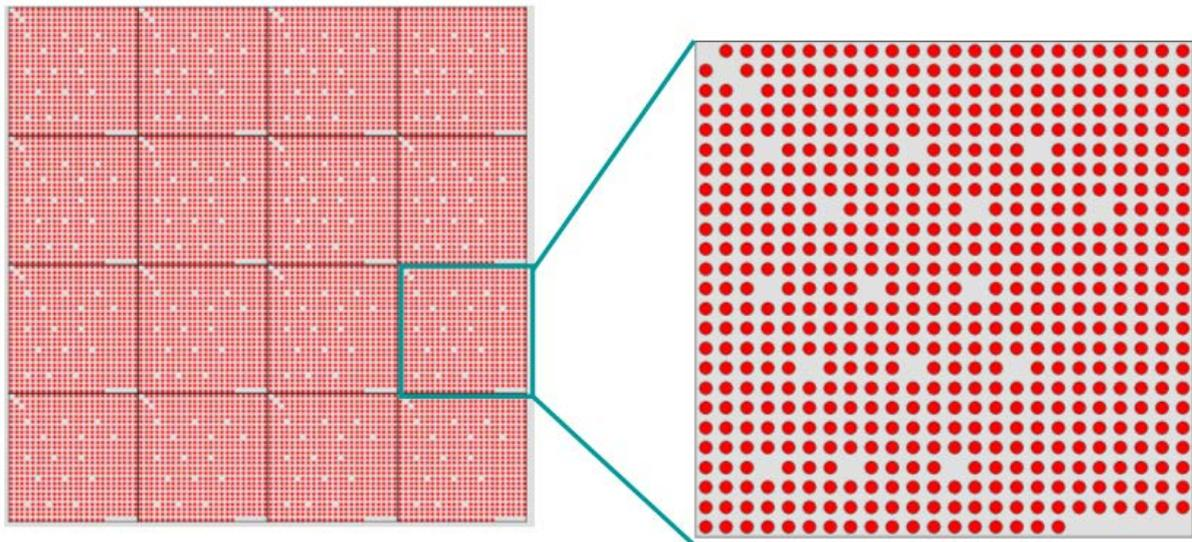

Figure 3: Exemplaric view for a subarray (left) consisting of 16 individual blocks. Each block (right) is calculated by number of rows vs. number of columns
For high-density peptide microarrays, each peptide subarray (SA) is printed in individual blocks (see Figure 3). Using the provided .gal-file, the evaluation can be performed using software modules like GenePix, ArrayPro or similar programmes which will align the .gal-file induced grid onto the resulting image.